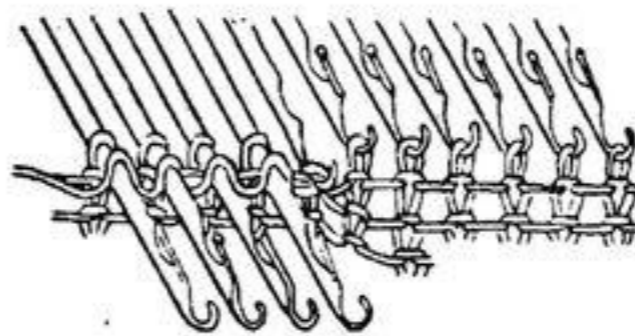

Fig. 55
- (d) Repeat from * to * until you have completed the turning (Figs. 55 — 58). Bring the Return Cam Levers into Position "2" and continue to knit.